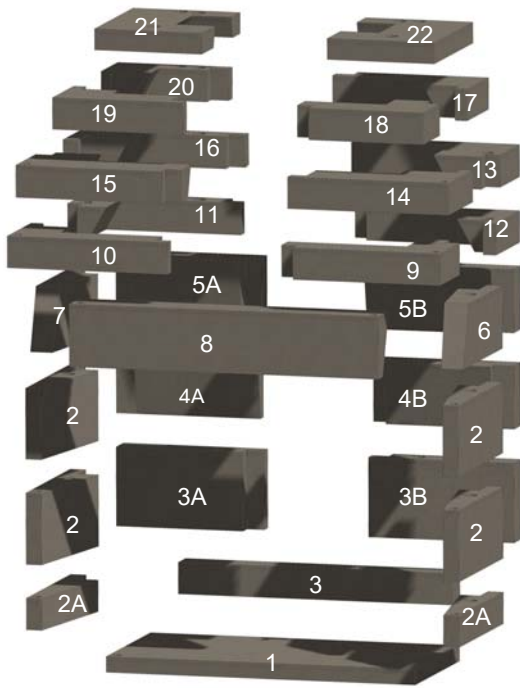
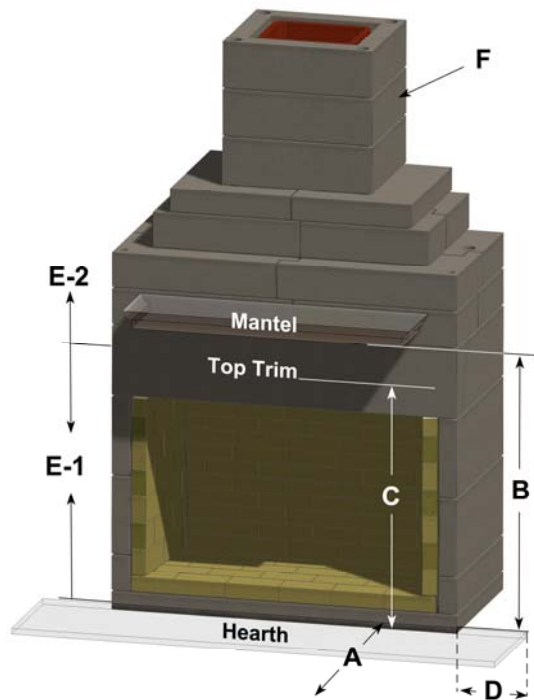

Figure 2. Fireplace Components
Figure 3. Clearances (Use with Table 2)
The fireplace is delivered as a kit with all components necessary to complete the installation. The kit is configured for a flue chimney, but a special adapter is available for a metal chimney. Component arrangement, some of which is optional, is shown in Figure 2. Components are shown in Table 1. Specifications and installation dimensions are shown in Table 2.
- A. Fireplace items shown in Figure 2 and listed in Table 1.
**Table 2: Clearances (See Figure 3)
Select a wall location in the home plans where all the minimum distances, as shown in Table 2 and Figure 3 can be met. Proceed as follows. Numbers in () are item numbers from Table 1 and Figure 2. Ensure the base on which the fireplace is to be installed is a solid and level foundation and is composed of non-combustible material, such as concrete.
O. Install the hearth and or hearth extension. Ensure the Table 2 and Figure 3 clearances and distances are maintained. Ensure that the hearth and flooring under and in front of the hearth are made of fully non-combustible materials, not just a non-combustible floor covering. When the hearth installation is complete, you are now ready to install the exterior.